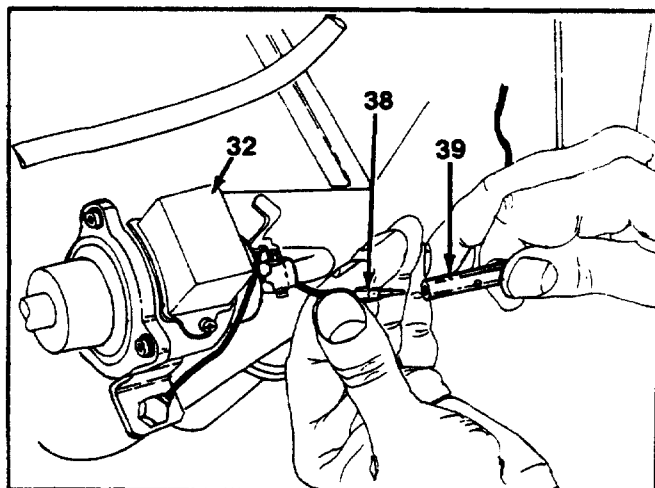

FIGURE 21.
24. Disconnect the fuel pump positive wire from the connector. See figure 21.